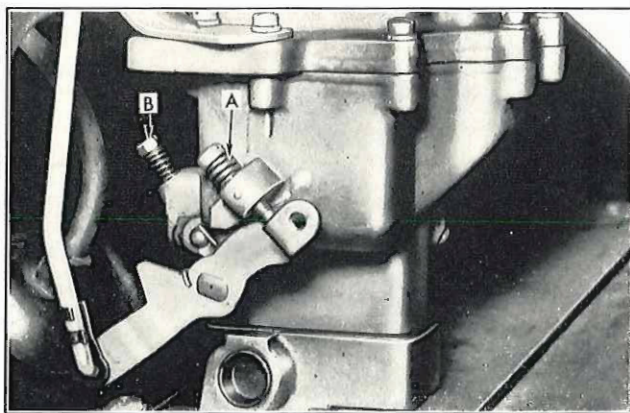

Fig. 3—Idle Mixture (B) and Idle Speed (A) Adjusting Screws
11. With the engine turned off and the choke in the full "off" position, back off both idle speed adjusting screws (A) until they clear the throttle shaft lever on each carburetor (fig. 3).
14. Turn the idle mixture screws (B) on both carburetors in until they are lightly seated, then back off each screw 1 1/2 turns (fig. 3).